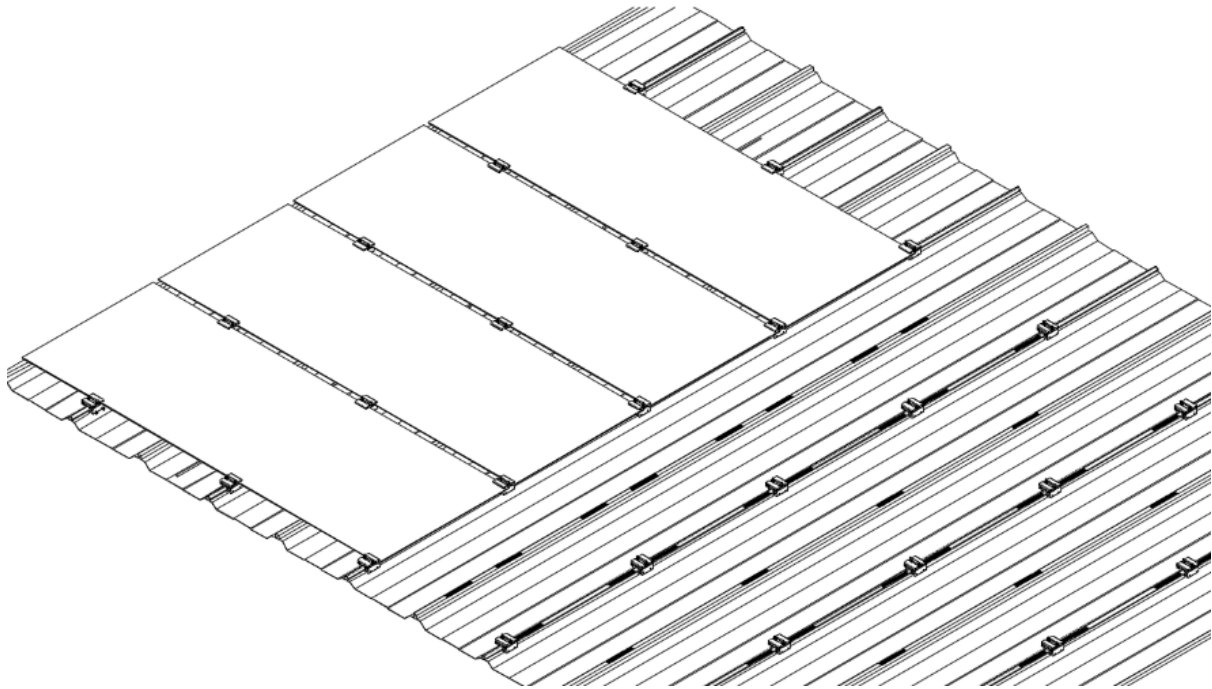

FIGURE 15
- ⑪ Follow the above installation sequence until all products in the first row have been installed, then tighten the nuts on the last row of clamps to fix the coverboard, so that the first row of products installation is finished (Figure15)